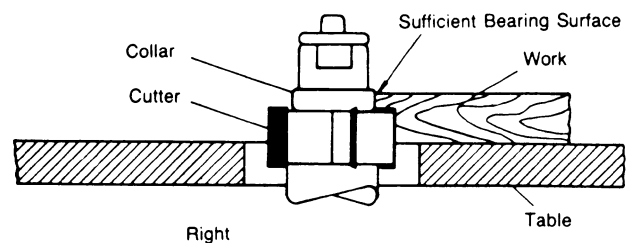

Fig. 12
- Figure 12 illustrates **sufficient** bearing surface.